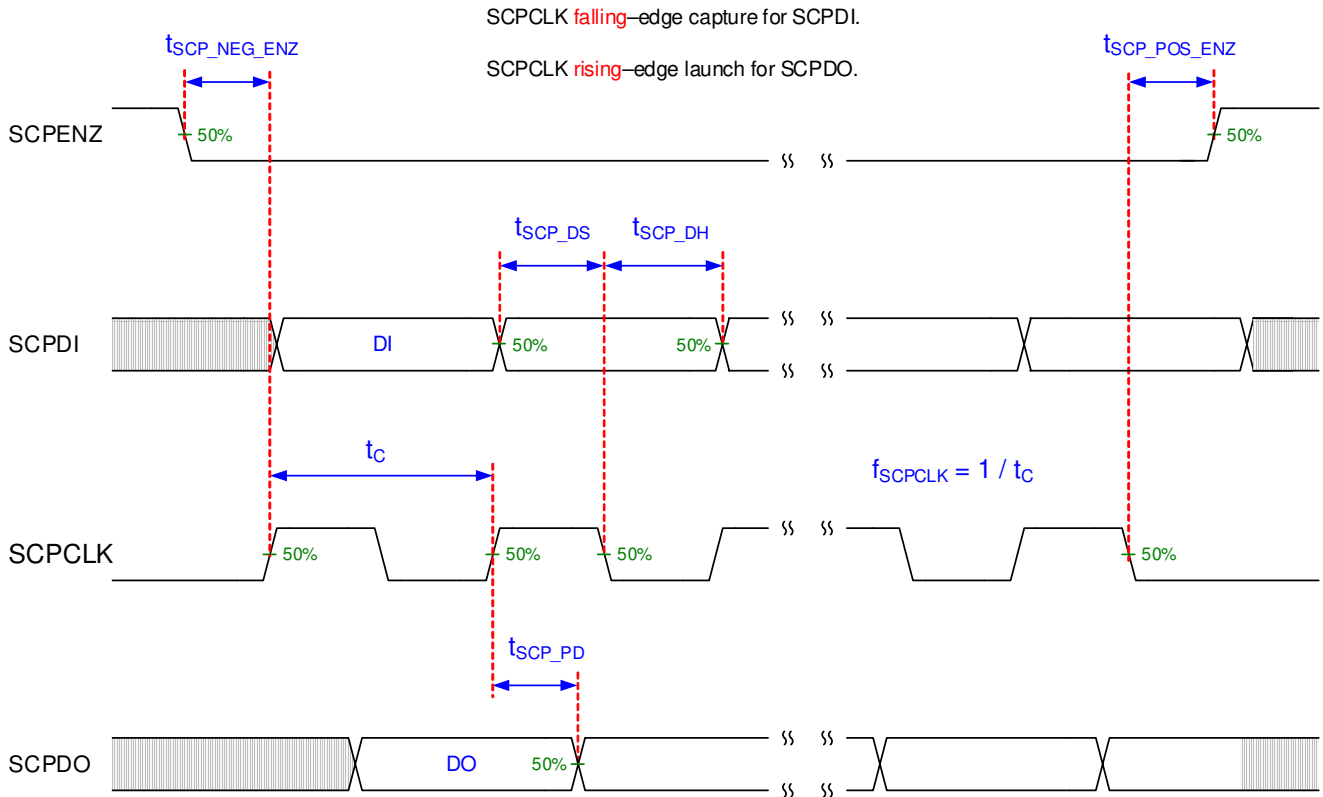

Figure 6-2. SCP Timing Requirements
- (5) Low-speed interface is LPSDR and adheres to the Electrical Characteristics and AC/DC Operating Conditions table in JEDEC Standard No. 209B, "Low-Power Double Data Rate (LPDDR)" JESD209B. Tester Conditions for VIH and VIL.
- (6) PWRDNZ input pin resets the SCP and disables the LVDS receivers. PWRDNZ input pin overrides SCPENZ input pin and tristates the SCPDO output pin.
- (7) The SCP clock is a gated clock. Duty cycle must be 50% \pm 10%. SCP parameter is related to the frequency of DCLK.
- (8) See Figure 6-2.